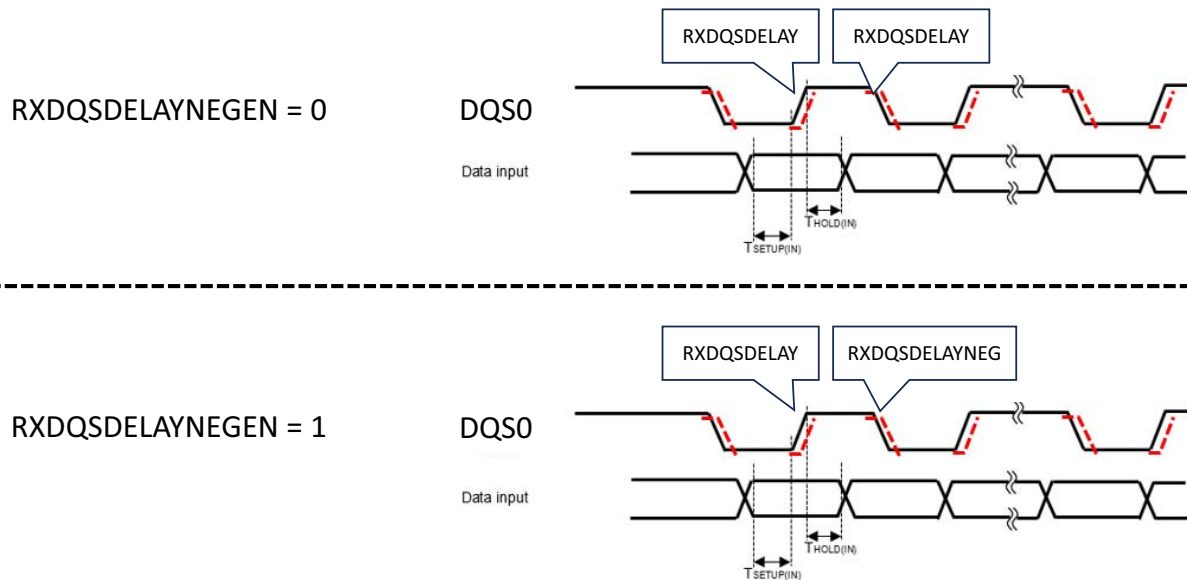

Figure 24. Octal/Hex DDR Mode with DQS - Read Delay Lines - Lower Data Byte DQS
Figure 24 shows DQS0 delay parameters in Octal/Hex DDR Mode with DQS, with respect to the input (RX) data byte (lower data byte for Hex) when $RXDQSDELAYNEGEN = 0$ and when $RXDQSDELAYNEGEN = 1$. See the fields in the $DEVnDDR$ register which set these parameters.